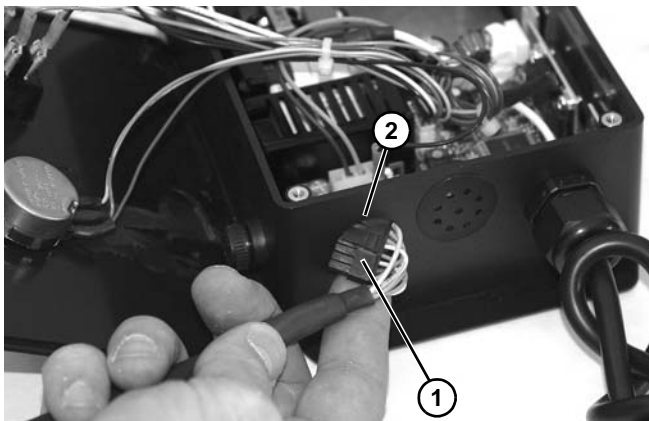

Figure 30
6. Turn connector (Figure 30, item 1), as shown, and remove wiring and connector through controller opening (Figure 30, item 2).